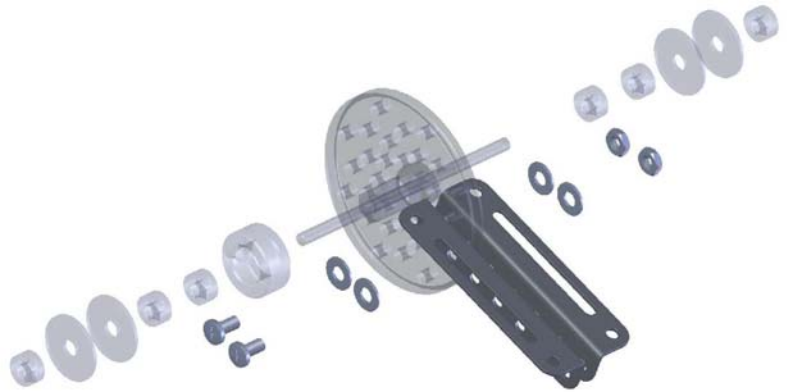
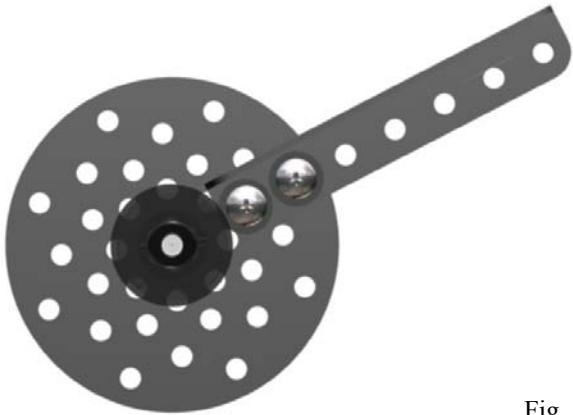

Fig. 12
Fig. 13
**Step Three: Counter Weight Arm** (*figure 12*)
Obtain the necessary components to construct the counter weight arm assembly illustrated in figure 12. Note: An orthographic (front) view of the counter weight arm assembly is shown in figure 13. Use this view to obtain